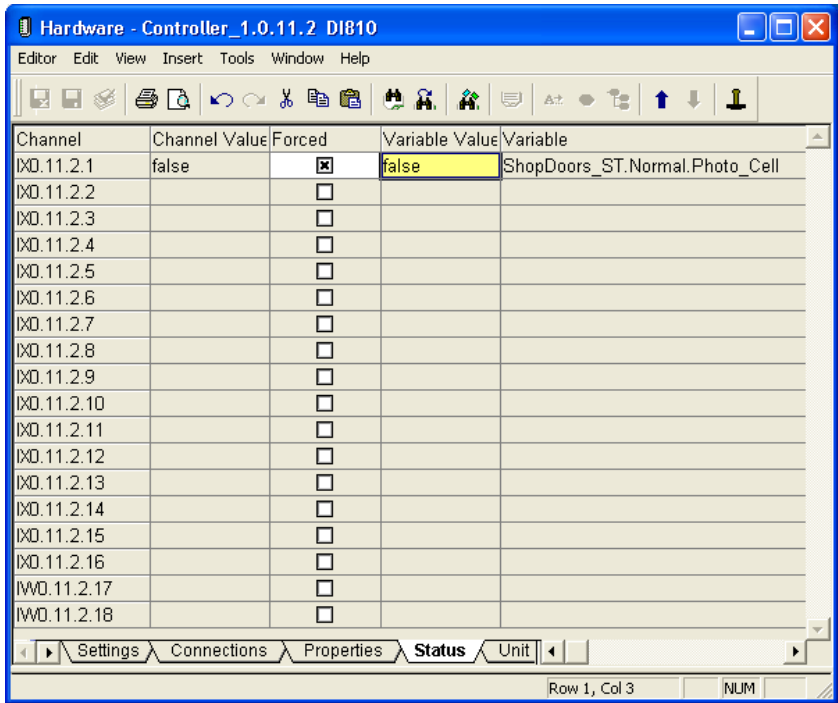
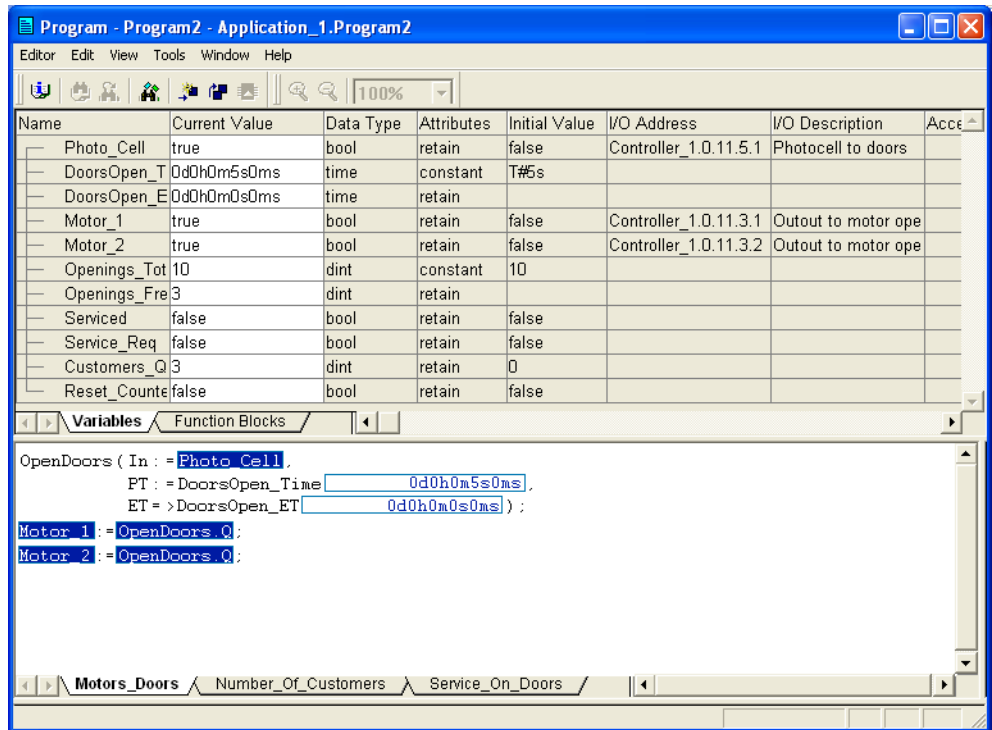

Figure 61. The status of the photocell and the motors can be forced in the I/O editor.
Figure 62. The changing motor values can be inspected in the online editor.
- 3. Check the box in the **Forced** column. Change the variable Photo\_Cell value to 1 (true), return quickly to 0 (false) and inspect the motor’s values in the online editor (values will change to 1 for five seconds and then return to 0). Previously, you changed the variable Photo\_Cell values in the online editor for program **Program2** to start and stop the motors. Now, you are using the I/Os to control the motors (See Figure 61 and Figure 62).